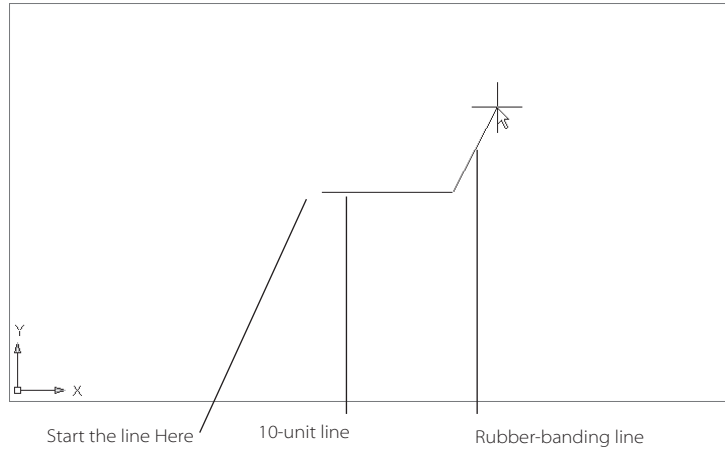

Figure 2.4
1. Click the Line tool in the Home tab's Draw panel again, and then click a point just left of the center of the drawing to start the line (see Figure 2.4).
3. Press **↵**. A line appears, starting from the first point you selected and ending 10 units to the right of it (see Figure 2.4). You have just entered a relative polar coordinate.